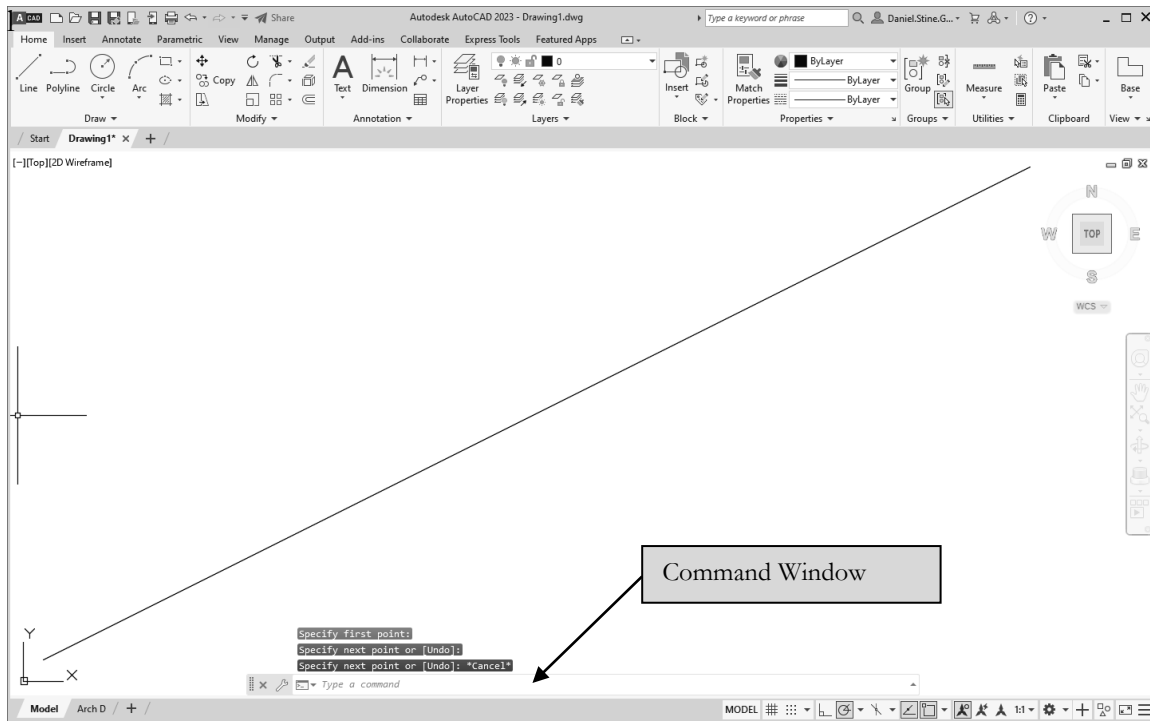

FIGURE 2-1.4 Your first line!
7. **Draw a line** from the lower left corner of the screen to the upper right corner of the screen (by simply clicking two points on the screen); see **Figure 2-1.4**.